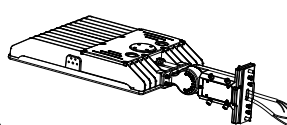

Figure 12
Step 3: Let input wire go through the bracket and lock the bracket. (Figure 12)